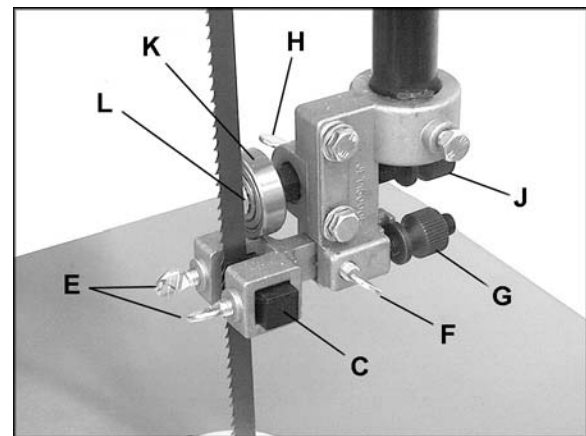

Figure 31
3. Loosen thumb screws (E, Figure 31) and move guide blocks (C, Figure 31) as close to the blade as possible without pinching it.
4. Tighten thumb screws (E, Figure 31).
5. Loosen thumb screw (F, Figure 31) and turn knurled knob (G, Figure 31) to move the guide block bracket in or out until the front edge of the guide blocks are just behind the "gullets" of the saw teeth.
6. Tighten thumb screw (F, Figure 31).
7. The blade support bearing (K, Figure 31) should be adjusted so that the back edge of the blade overlaps the front face of the ball bearing approximately 1/8". To change position of the bearing, remove screw (L, Figure 31), and bearing (K, Figure 31). Loosen thumb screw (H, Figure 31) and back off knurled knob (J, Figure 31) completely to remove the bearing shaft.
8. Notice the bearing holder on the shaft is eccentric. Index the bearing shaft to another position and slide it back in, making sure the flange on the thumb screw (H, Figure 31) properly seats into the groove of the bearing
9. With the thumb screw (H, Figure 31) still loosened, adjust the distance from bearing to blade. Turn knurled knob (J, Figure 31) to move the support bearing (K, Figure 31) in
10. Tighten thumb screw (H, Figure 31).